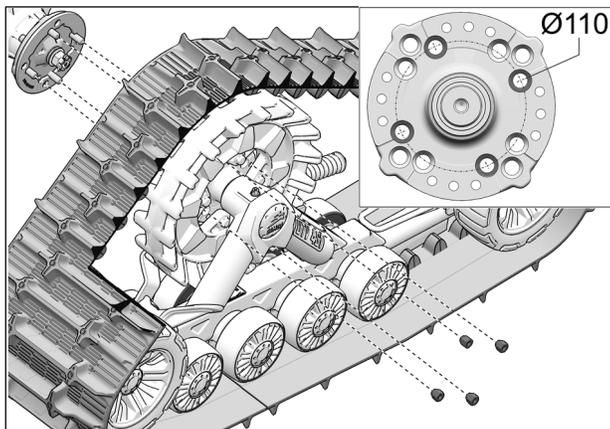

Fig. 13 RTV-X 1140
13. Secure undercarriage to rear hub using the vehicle's wheel nuts. Use bolt circle $\varnothing 110$ mm. See Fig. 13